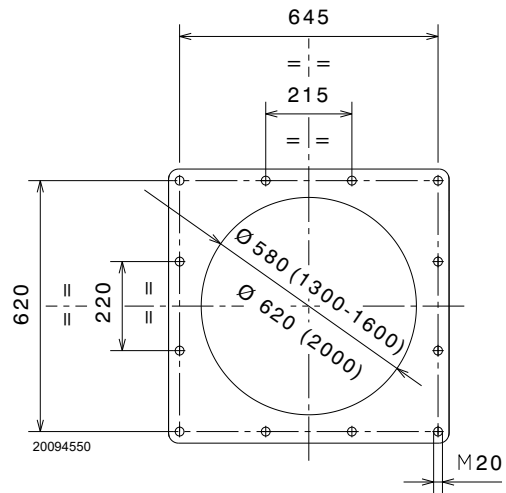

Fig. 12
Pierce the closing plate of the combustion chamber, as in Fig. 12. The position of the threaded holes can be marked using the thermal insulation screen supplied with the burner.
- Insert the entire burner on the boiler hole, previously fitted, as in Fig. 12, and fix it with the screws supplied.